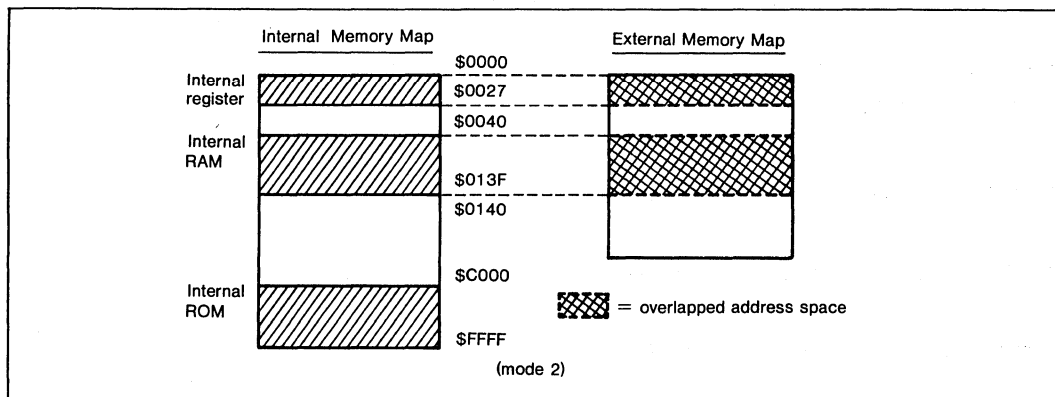

Figure III-9. Overlapping Addresses
**Question:** When using external memory at the addresses shown below in expanded modes (modes 1, 2), some addresses overlap internal registers and RAM addresses (figure III-9). In such a case, are there any problems?